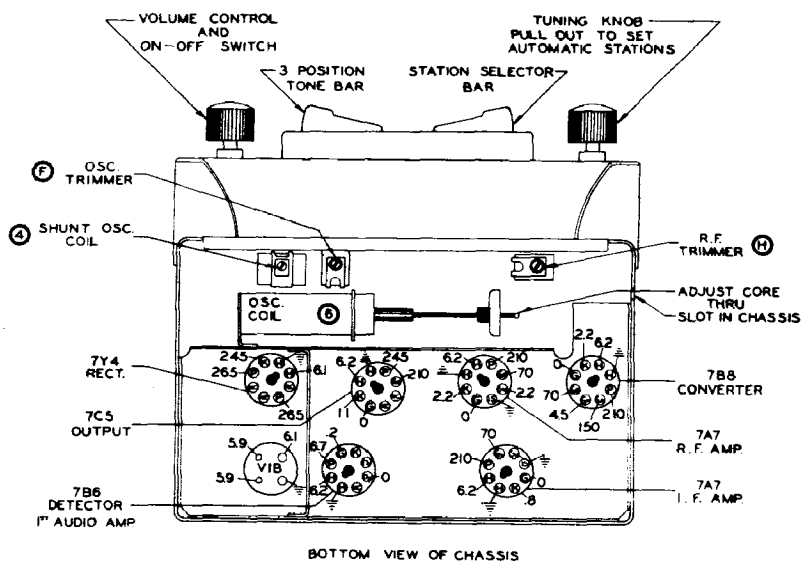

FIG. 10
Socket Voltages see Figure 10
- 5—Set the oscillator trimmer (F—Fig. 10) at 1640 Kc.
- 9—Adjust the oscillator core (6—Fig. 10) to scale at 1200 Kc.
- 12—"Rock in" the Shunt oscillator core (4—Fig. 10) for maximum output reading. Same as rocking in the padder condenser on a ganged condenser receiver).
Figure 10 shows the approximate voltages as measured with a 1000 ohm per volt meter measured between the socket terminals and the chassis. Volume control set at maximum with no signal. Battery Voltage—6.3.